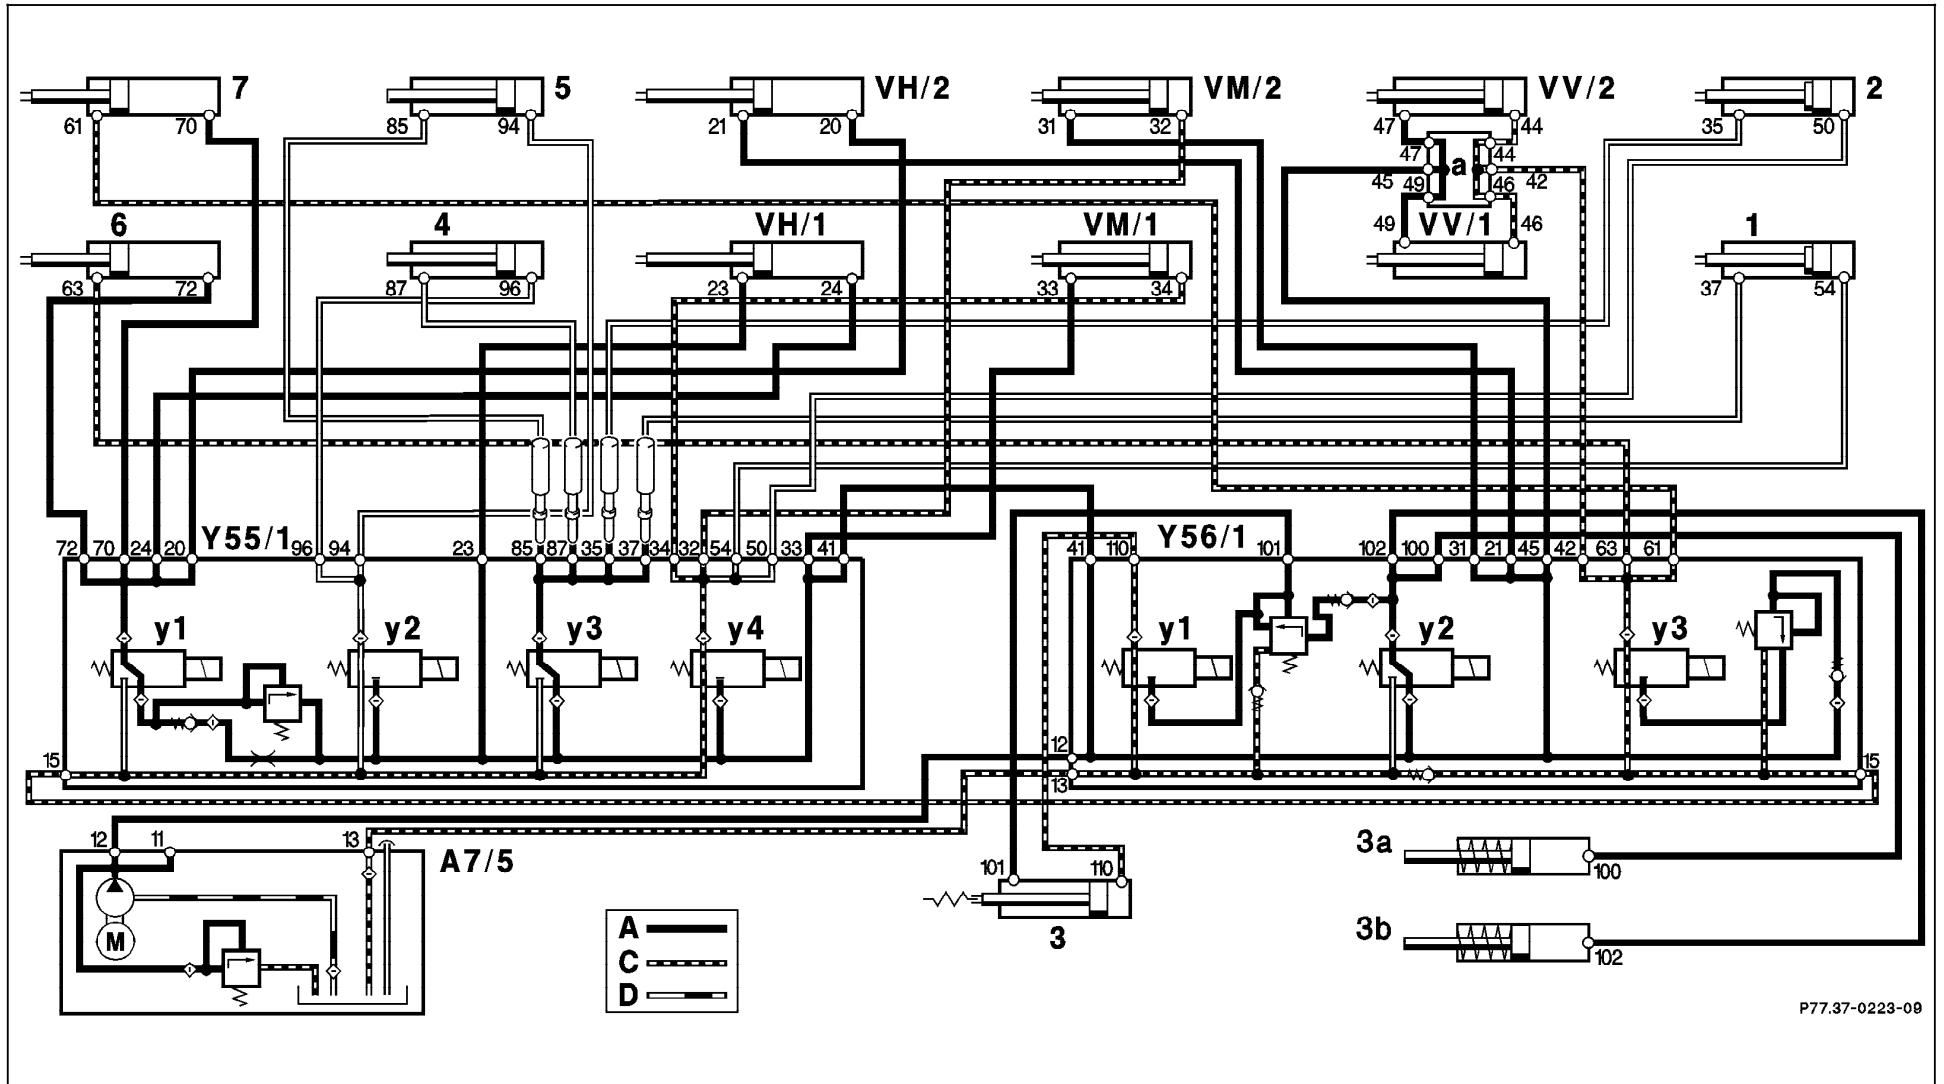

Figure 24
| 6.3 |   | Raise fabric bow(Figure 24) | Connect pressure gauge according to connection diagram (Figure 4).Disconnect hydraulic line no. 35 from valve block (Y55/1). Seal connection with threaded plug 129 589 00 91 01.Connector at valve block (Y55/1y4) to remain disconnected.Hydraulic lines no. 37, no. 85 and no. 87 to remain disconnected. | <p>Fabric bow up</p> Ignition: ONPress and hold soft top switch: “ lower “. Have a second technician unplug relay (A7/5k1, Figure 4) after 5 sec. Keep switch depressed an additional 5 sec. <p>Read test pressure:</p> <p>Release test pressure:                     Press soft top switch briefly several times.</p> | 120 – 200 bar | <p>Nominal value ok:                     Right hydraulic cylinder (2) for soft top compartment cover leaking.</p> <p>Replace hydraulic cylinder (SMS, Job No. 77-370).</p> <p>&lt;120 bar:                     ⇒ 5.1</p> |